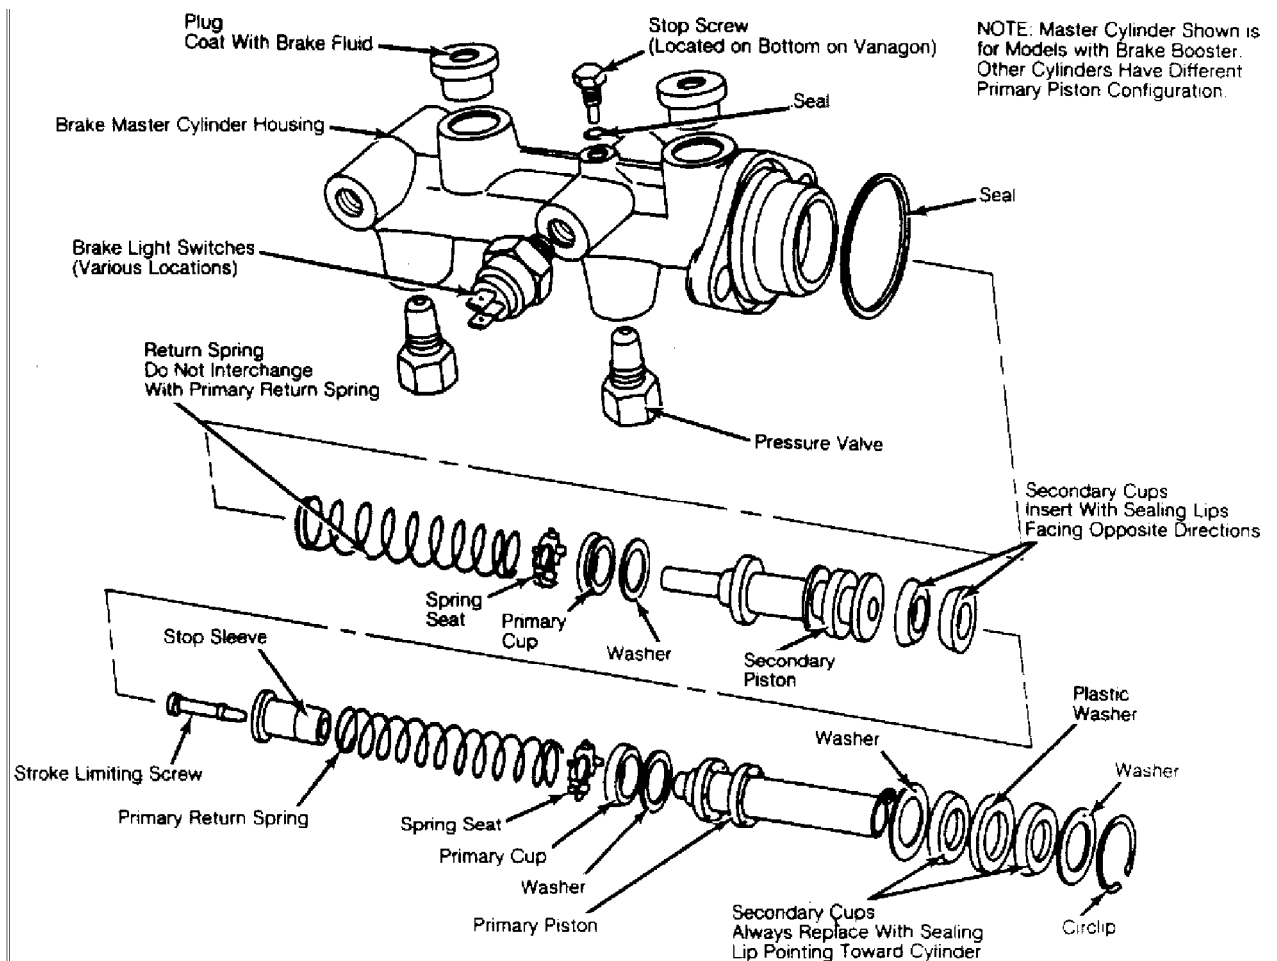

Fig. 8: Exploded View Of Power Assist Master Cylinder
1) Power assisted master cylinders differ in external design and primary piston configuration from unassisted versions. Disassembly procedure is identical for all versions. Remove dust boot (if equipped). Remove pressure valves and stoplight switches. See Fig. 8.